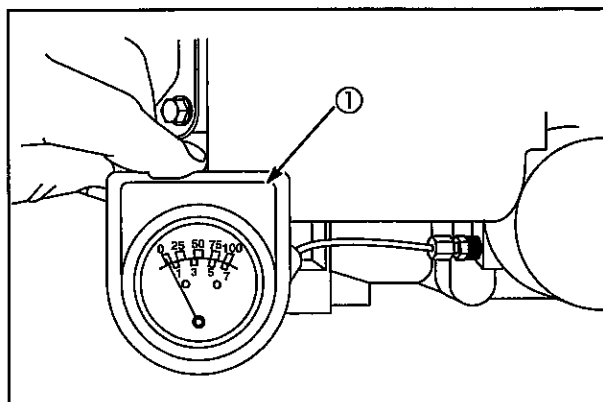

Fig. 49
3. Install oil pressure gauge (1), **Fig. 49**.